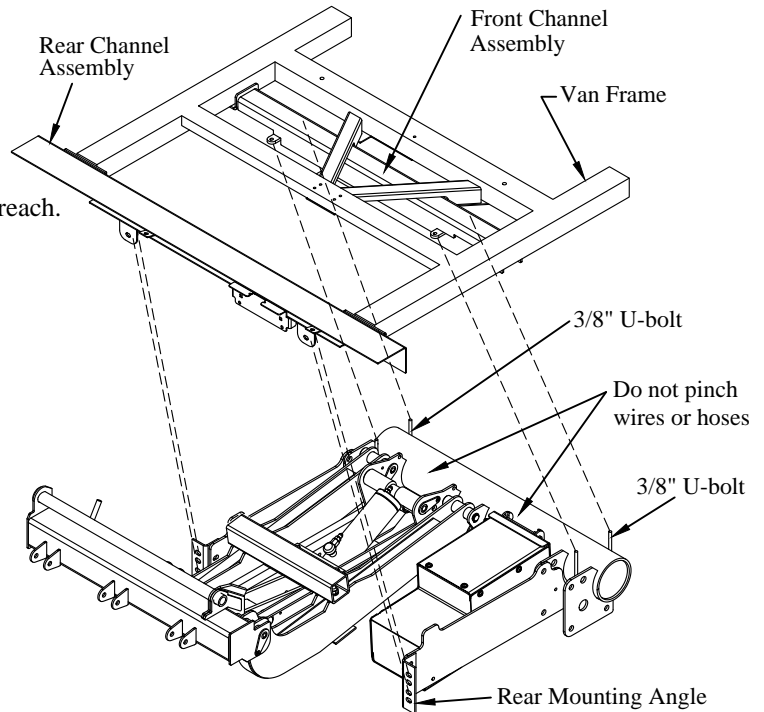

Figure 12: Main assembly position on frame.
4. **Attach** the 3/8" U-bolts to the front channel assembly with the supplied four (4) flat washers, lock washers and nuts.
5. **Attach** the rear mounting angles to the rear channel assembly with the supplied four (4) 1/2" x 1-1/4" bolts, lock washers, and nuts (Figure 12).